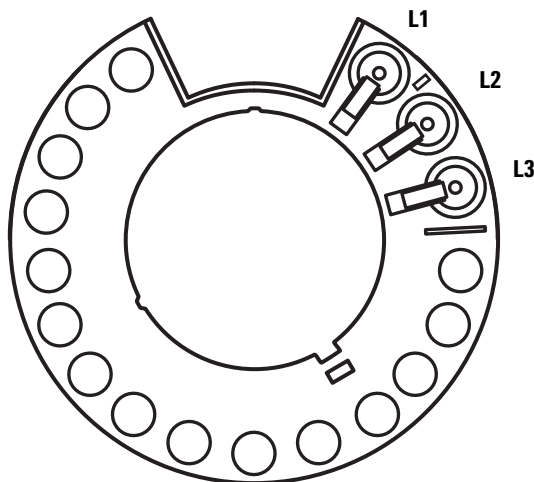

Figure 75 Transfer turret positions L1, L2, L3 (top view)
- 2 Remove any vials from transfer turret positions L1, L2, and L3 for all installed injectors (Figure 75).